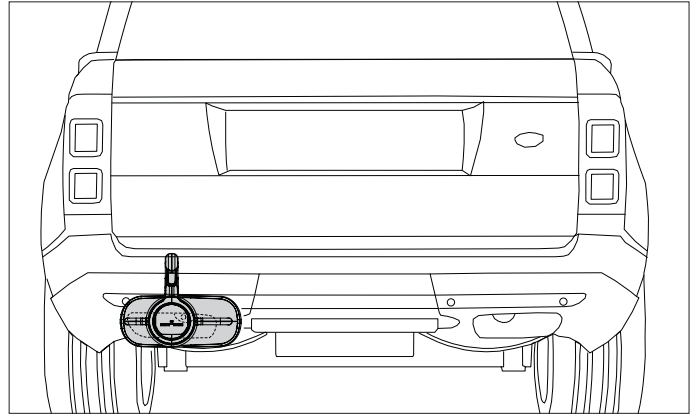

Fig. 5.5 Using the skirt to cover the exhaust pipe
- If necessary rotate the skirt so that most of the exhaust pipe is covered by the skirt. Refer to fig. 5.5 and 5.6.